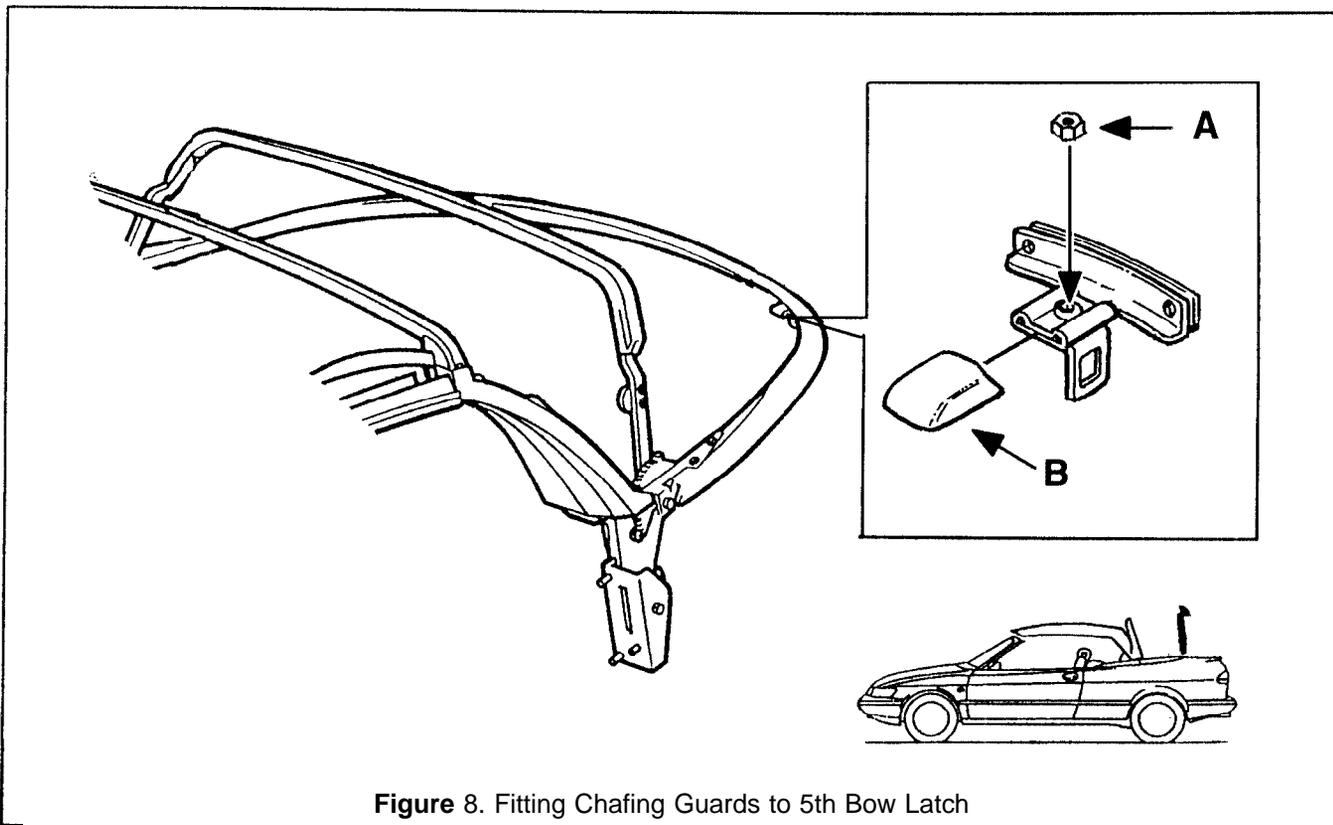

Figure 8. Fitting Chafing Guards to 5th Bow Latch
2. A nut is welded to the top of the latch fitting. On a number of cars there is also an extra loose nut. Where fitted, this nut must be removed. See Figure 8.A..
3. Fit the chafing guard on the latch fitting. Make sure that the grooves in the guard fit on the edges of the latch bracket. See Figure 8.B.